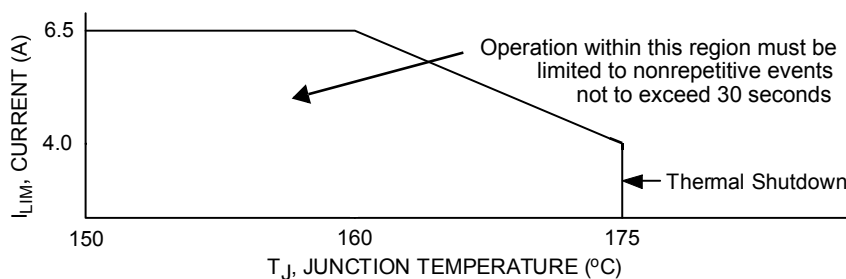
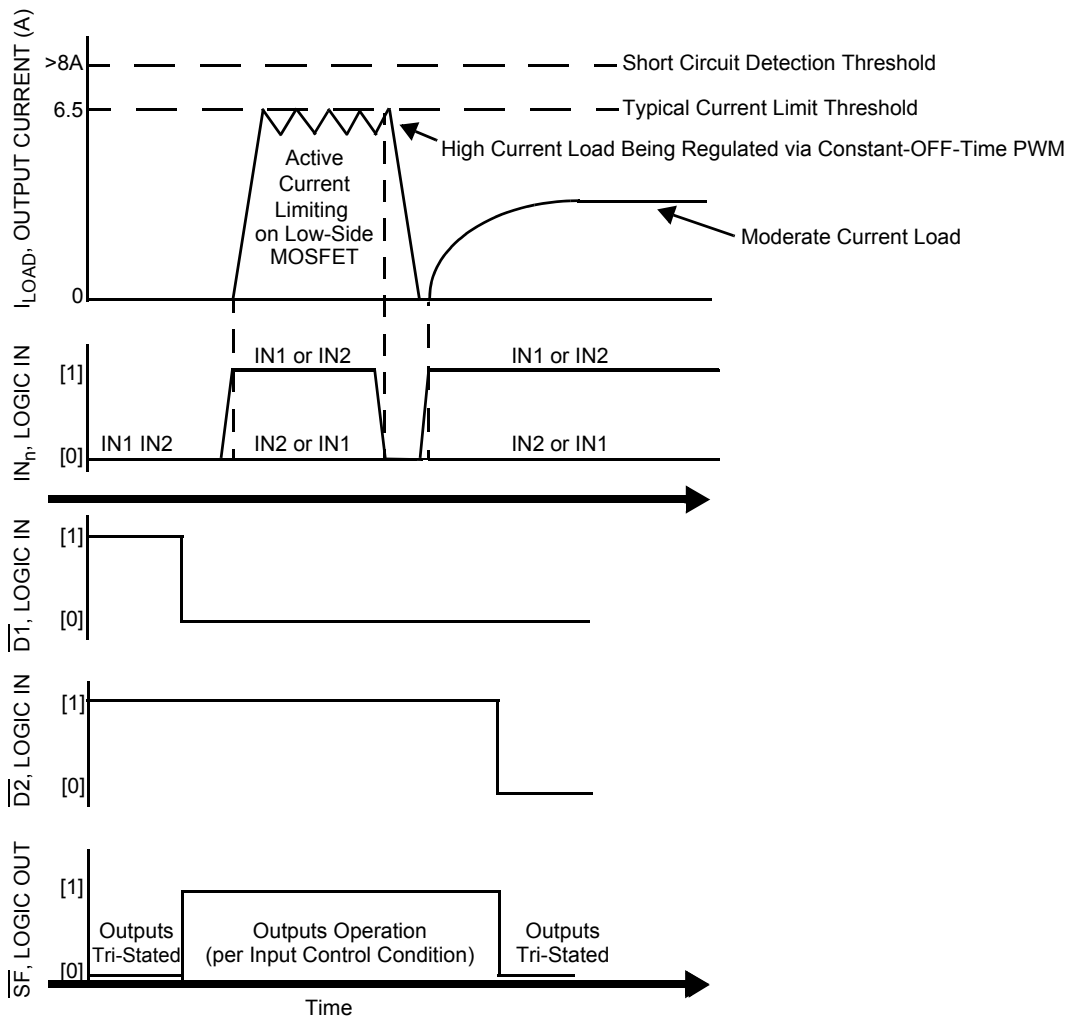

Figure 9. Active Current Limiting Versus Temperature (Typical)
Figure 10. Operating States
- 28 Load currents ramping up to the current regulation threshold become limited at the I_{LIM} value. The short circuit currents possess a di/dt that ramps up to the I_{SCH} or I_{SCL} threshold during the I_{LIM} blanking time, registering as a short circuit event detection and causing the shutdown circuitry to force the output into an immediate tri-state latch-OFF. See Figures 10 and 11, page 13. Operation in Current Limit mode may cause junction temperatures to rise. Junction temperatures above $\sim 160^\circ\text{C}$ will cause the output current limit threshold to progressively “fold back”, or decrease with temperature, until $\sim 175^\circ\text{C}$ is reached, after which the T_{LIM} thermal latch-OFF will occur. Permissible operation within this fold-back region is limited to nonrepetitive transient events of duration not to exceed 30 seconds. See Figure 9, page 12.